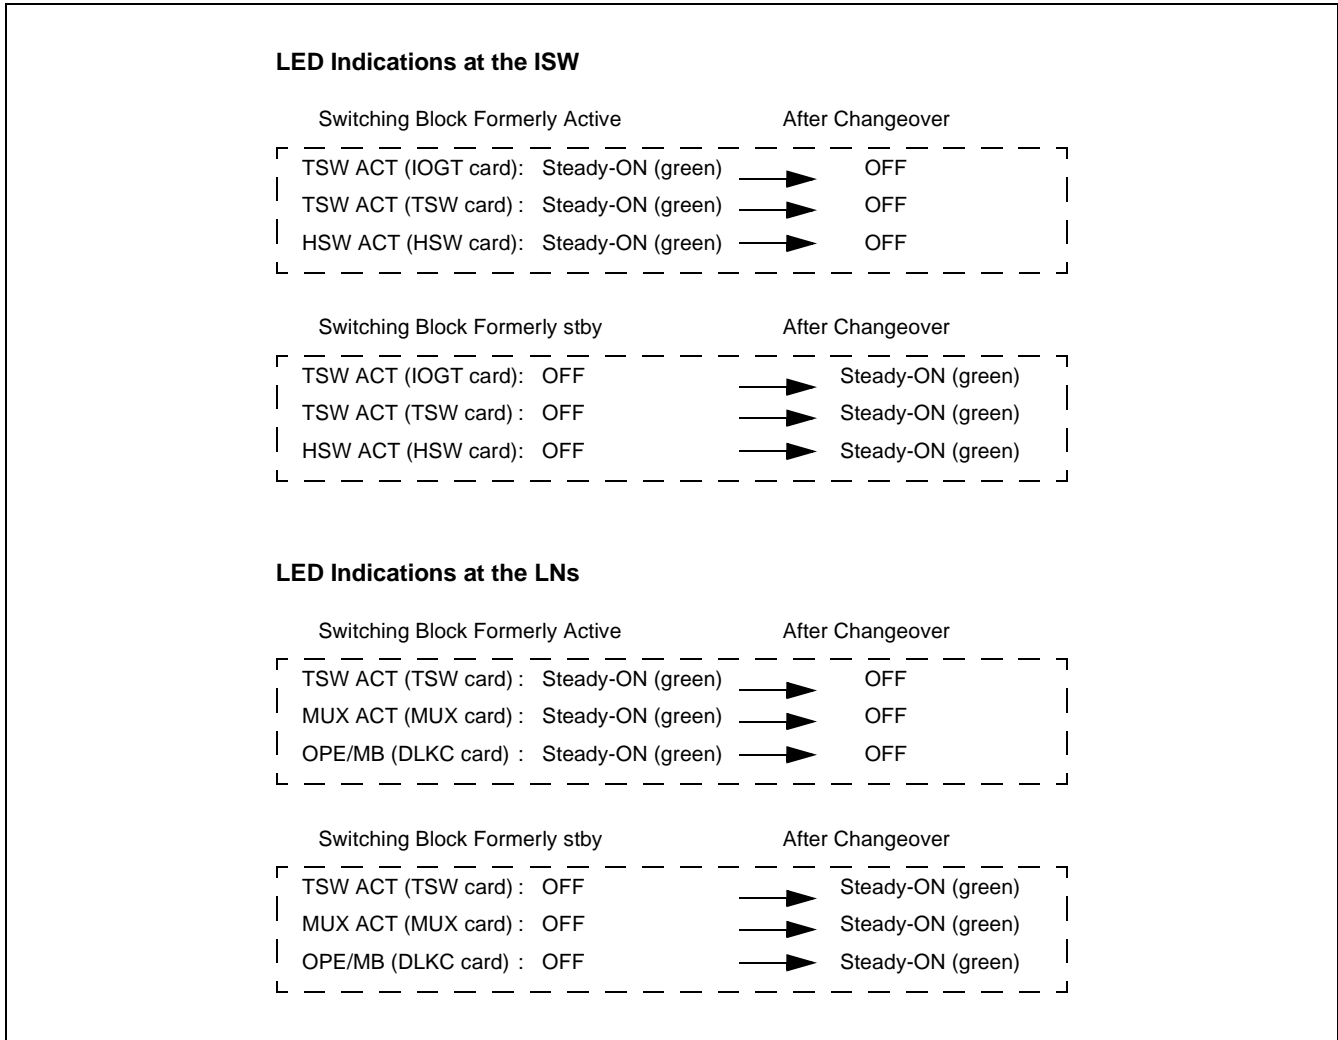

Figure 6-58 LED Indications Before and After Speech Path System Changeover
- (1) To confirm the imposed Speech Path System changeover, check all the lamps on the cards shown in Figure 6-58, which are in the relevant switching blocks.